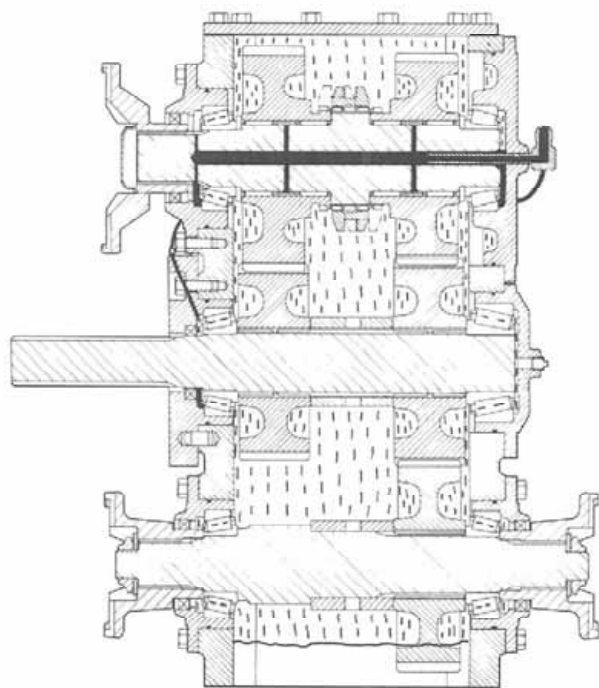

Figure 11:
The early production transfer case assembly lubrication diagram (Fig. 11) illustrates the path taken by the oil as it enters the unit. The oil under pressure enters at two (2) locations, one being the brake plate/bearing cap assembly, and the second being the input shaft rear cover assembly. A constant supply of oil reaches all bearings of the input shaft and front bearings of the center shaft. From this point, as the oil has passed the pressure circuit, it serves as splash lubrication.